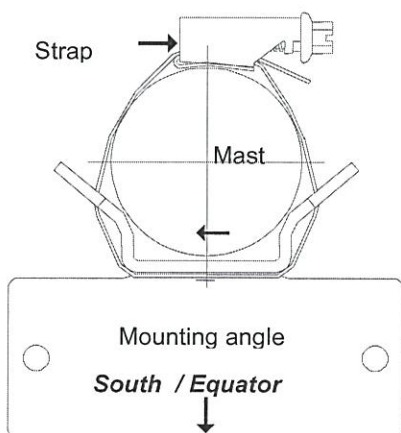

Figure 10: Strap, Mast, Mounting angle
First, the mounting angle (with or without housing) should be fastened at the mast. Because of the shading effect of the mast the angle is to be mounted at the highest possible place. Align the angle to the south acc. to **Figure 10** ($\pm 10^\circ$, Northern hemisphere), and fasten it at the top of the mast. It is advisable to have a second person holding the Laser Precipitation Monitor during the mounting. In case no second person is available, it is also possible to separate the mounting angle from the Laser Precipitation Monitor (2 nuts M6 below, 2 screws above [accessible after removing the housing cover]).
3. Put the free end of the prepared clamp around the mast and the mounting angle, and screw it on (**Figure 10**).